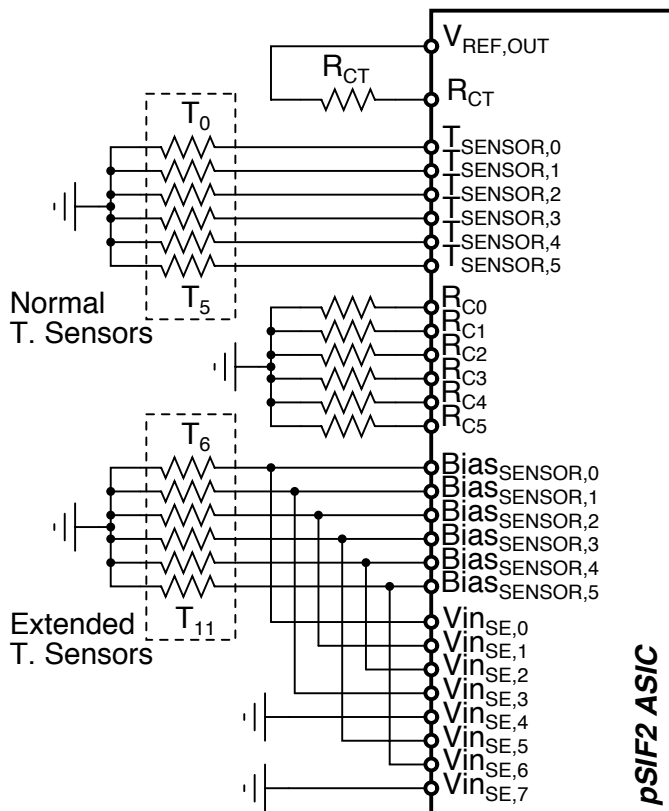

Figure 6: Analog front end configuration of the pSIF ASIC for interfacing 12 temperature sensors.
In Fig. 6 the entire front end configuration for measuring 12 temperature sensors is shown.
In the configuration of Fig. 6 to read out all the channels the following I2C commands need to be issued. To read out the 12 sensors the following sequence has to be executed.
- (a) Temperature sensors T0-T5 as shown in Fig. 6.
- (b) Extended temperature sensors T6 and T7 as shown in Fig. 6.
- (b) Extended temperature sensors T8 and T9 as shown in Fig. 6.
- (b) Extended temperature sensors T10 and T11 as shown in Fig. 6.
- For temperature sensors T0-T5 (see Fig. 6), 10 bits of resolution is achieved.
- For temperature sensors T6-T11 (see Fig. 6), 14 bits of resolution is achieved.